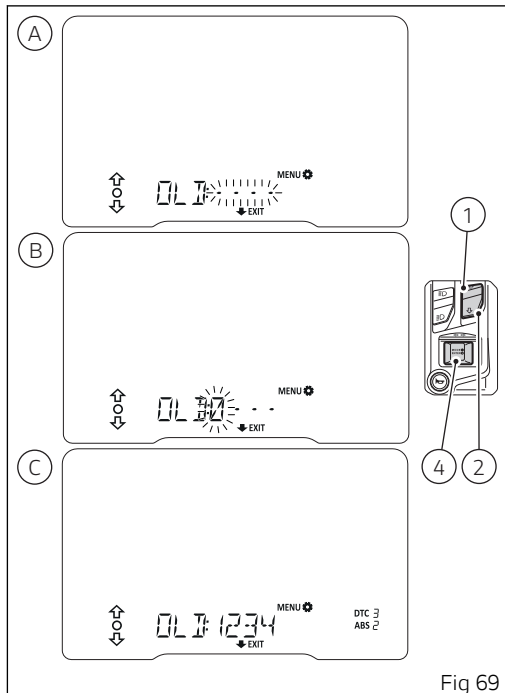

Fig 69
When you press button (4) to confirm the fourth and last digit (C, Fig 69), the instrument panel responds as follows:
- if the PIN is not correct, the instrument panel shows "WRONG" flashing for 2 seconds and quits the PIN CODE editing function. Then you can select and enter again the old code (A, Fig 69)